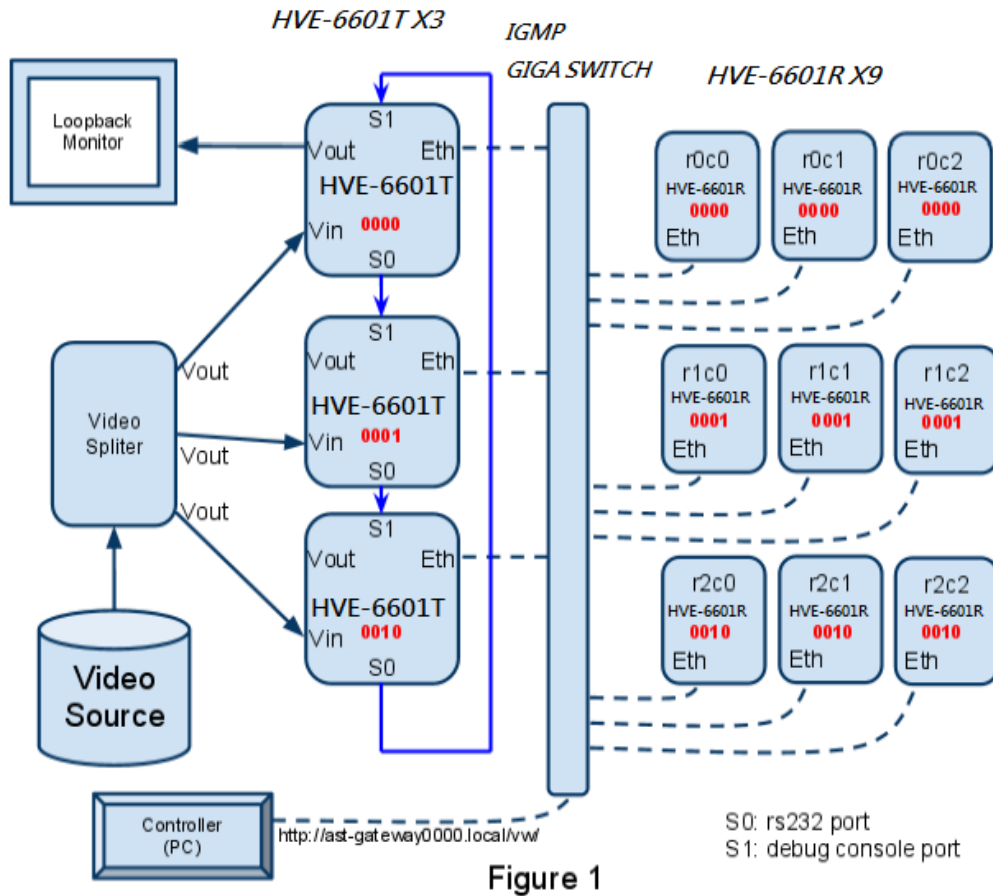

Figure 1
- The first host (host_r0 in Figure 1) will play the role as control portal and in charge of sending commands to the other hosts and clients. You must only issue commands through the control portal when performing video wall basic setup.
- The controller (PC) uses web browser(You can used Link Utility to press TV Wall button was the same do.) to link to control portal's web UI. If you don't want to perform control through web interface.
3. To unify all kinds of video wall configuration, we take a system approach to separate the video wall layout into position layout and screen layout. Position layout means the physical position of each host and client. Every host and client will be assigned a unique position ID during "Basic setup". In Figure 1, the position ID is indicated as r0c0, r1c2... Screen layout is used to tell HVE-6601T/6601R how to display its screen. For example, as 2x2 or 3x3. After "Basic setup" the position ID won't change, so you can have a unique ID to address a device (for example r0c1) and ask this device to change its screen layout (for example from 3x3 to 2x2). In basic setup case, position layout equals to screen layout, but not necessary to.
2. Follow Figure 1 to construct the whole system.